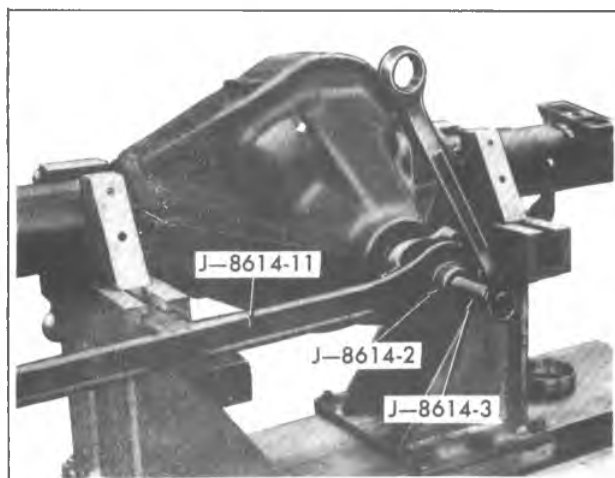

Fig. 6F--Removing Companion Flange
5. Thread end of J-8614-3 into small O.D. end of J-8614-2. Then with J-8614-11 installed as in step 3, insert J-8614-2 into J-8614-11 and turn it 1/8 of a turn to locked position. Remove flange by turning J-8614-3 while holding J-8614-22 as shown in figure 6F.